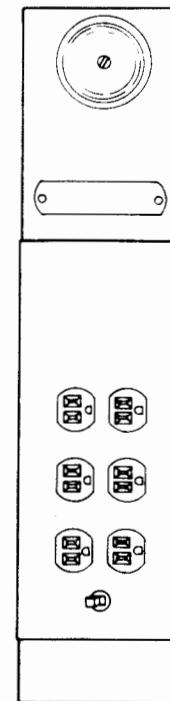

Figure 6 - Utility Strip
2.23 An electrical service unit variation utilizes a utility strip (Figure 6). The utility strip is a separate chassis containing some of the components normally contained in the main chassis. These components are the copylight transformer, motor control relay, ac receptacles, a circuit breaker instead of a fuse, and the signal bell which is normally mounted separate from the main chassis.